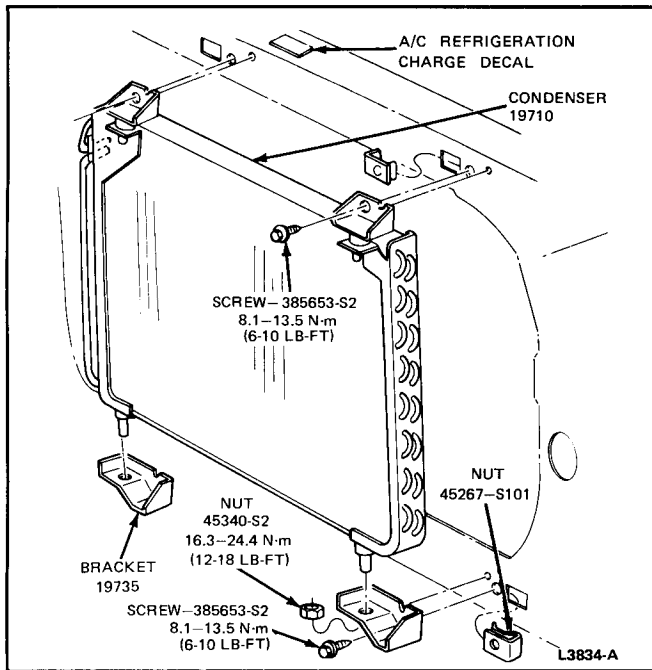

FIG. 26 Condenser and Receiver Drier Installation
3. Disconnect the two refrigerant lines at the fittings on the right side of the radiator (Fig. 26). Refer to the procedure for disconnecting spring lock couplings.